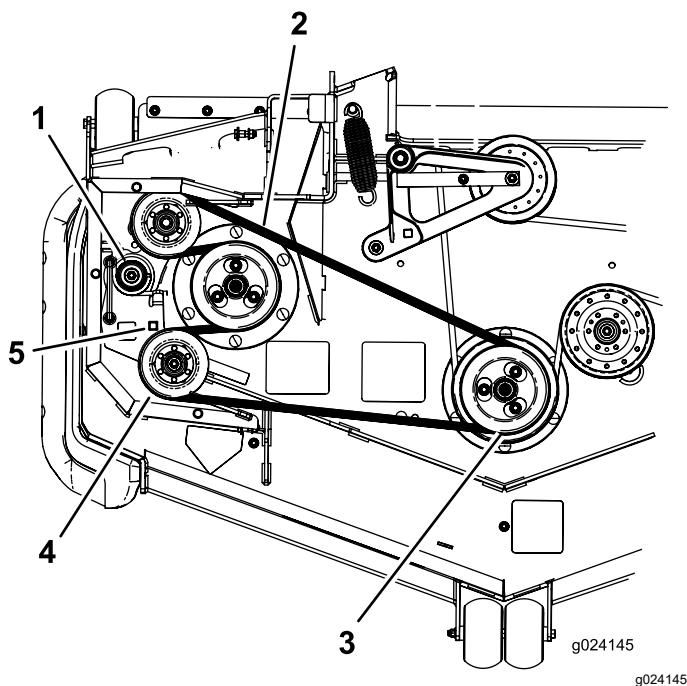

Figure 100
7. Use a ratchet in the square hole in the idler arm to remove tension on the idler spring (Figure 100).
8. Remove the belt from the mower deck pulley (Figure 100).
9. Remove the belt from the remaining pulleys (Figure 100).
11. Using the ratchet in the square hole, remove the tension on the spring, and guide the new belt around the idler pulley (Figure 100).